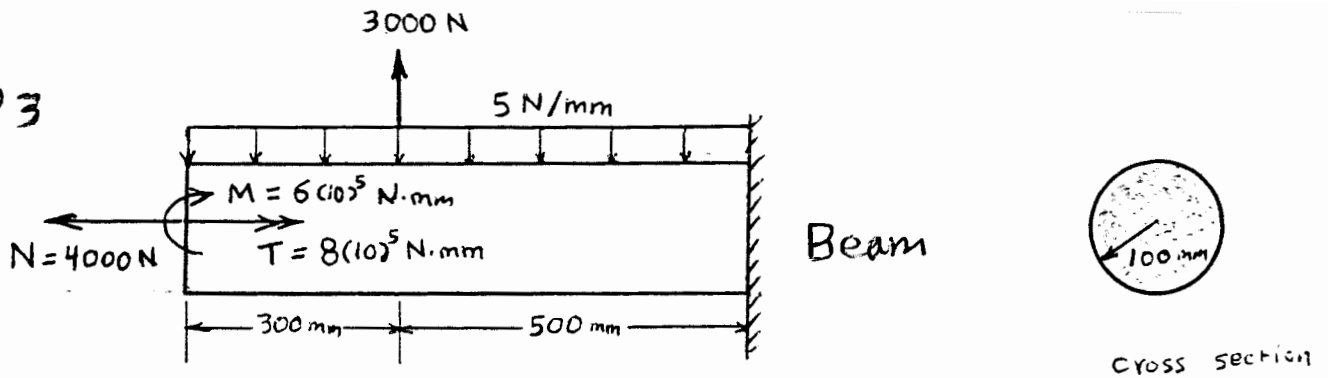

Fig P4
- 4) In the figure shown in Fig. P4, determine the values and locations of the maximum tensile and compressive (normal) stresses at the fixed end. [Sec. 8.2 + Handout] (25 pts.)